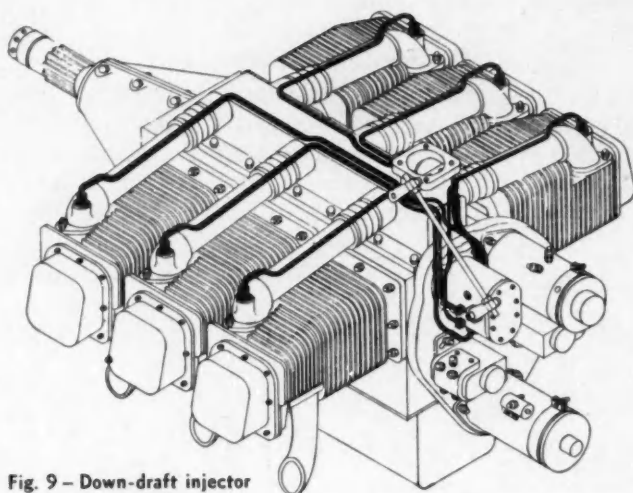

Fig. 9 - Down-draft injector engine design
9. Flatter engine designs. (See Fig. 9.)
Fig. 9 illustrates an ideal injector engine. We recommend the following rules for injector equipped engine design: